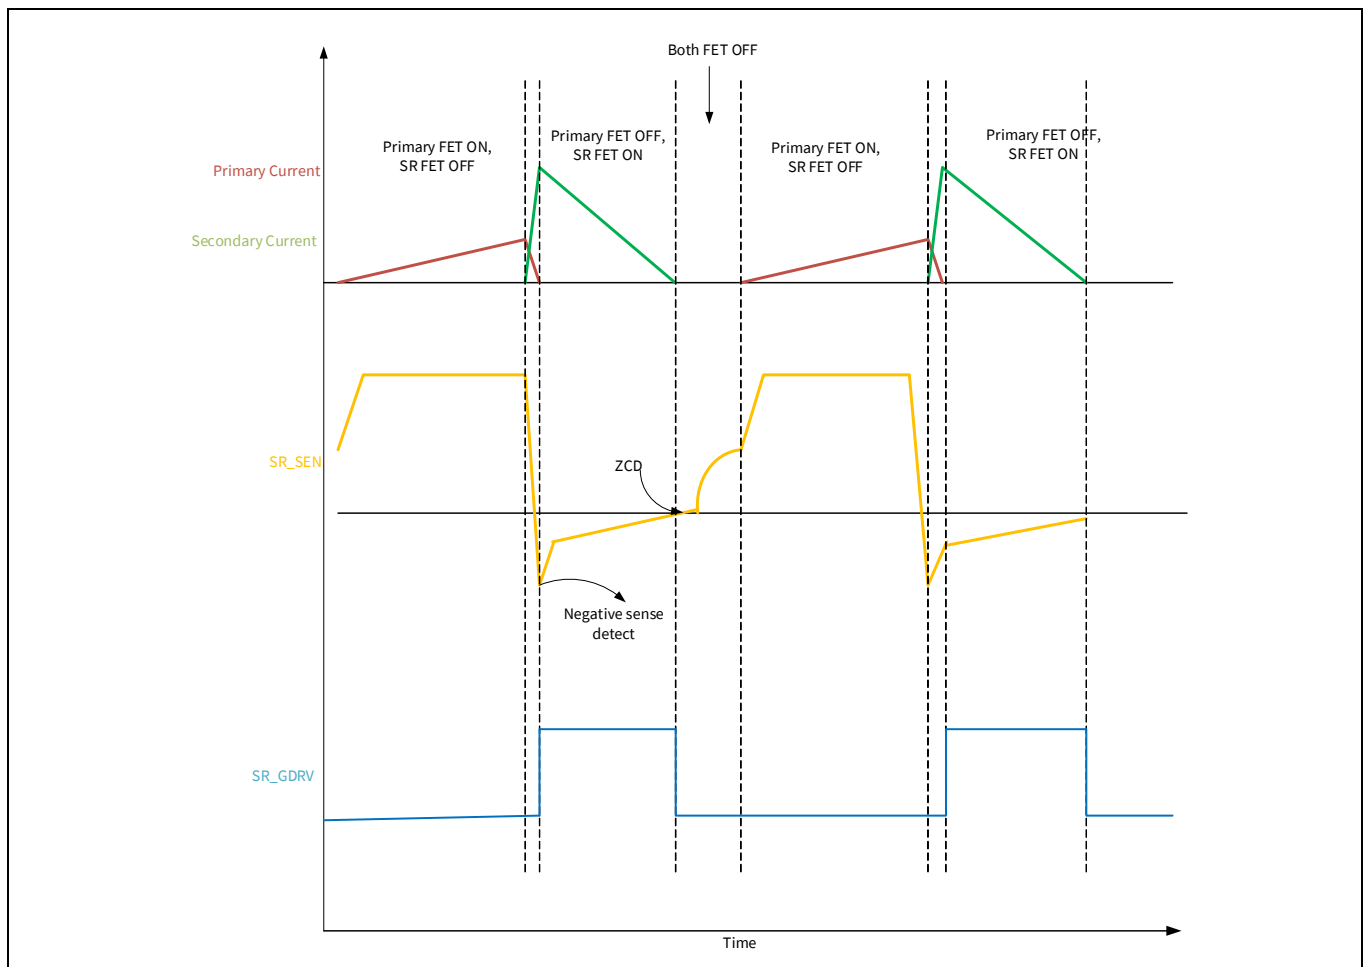
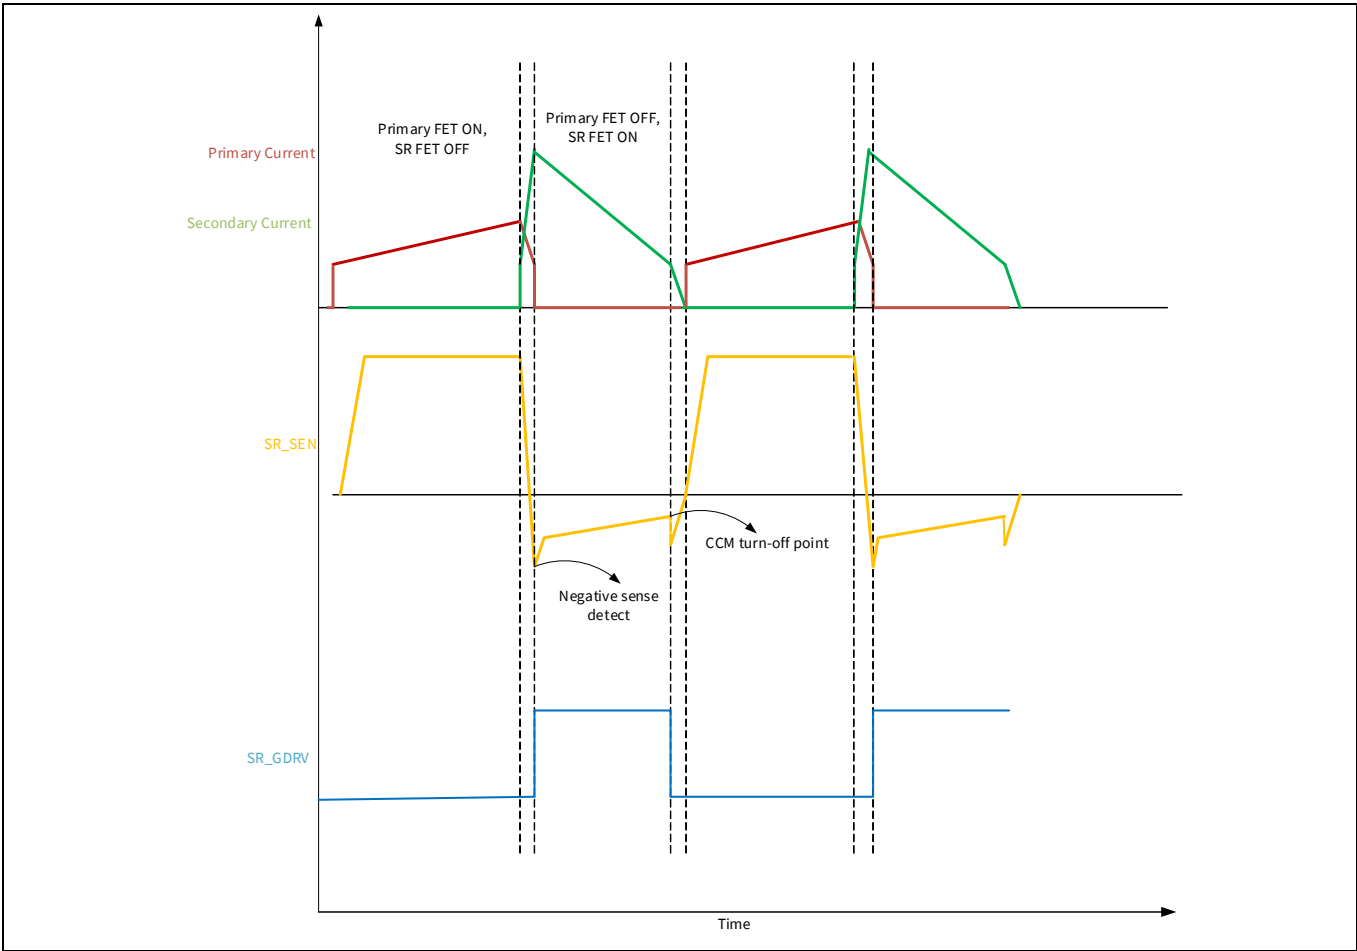

Figure 3 SR_SEN and SR_GDRV in QR/CrCM mode
Figure 5 SR_SEN and SR_GDRV in CCM mode
PAG2S-QZ supports synchronous rectification (SR) in both DCM and CCM modes. The SR sense block supports negative sense detect and ZCD. Figure 3 through Figure 5 show the SR_GDRV functionality in QR/CrCM, valley switching, and CCM modes. The SR controller has a turn-on propagation delay of 40 ns (typ) and a turn-off propagation delay of 25 ns (typ).